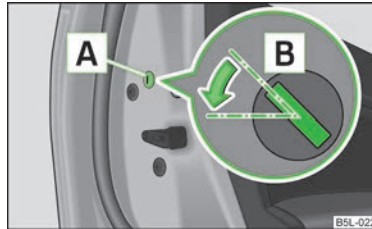

Fig. 15
- Remove the panel **A** » Fig. 15.